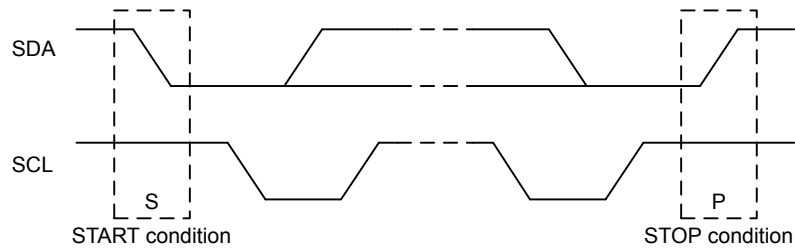

Figure 22.4. I²C START and STOP Conditions
START and STOP conditions are used to initiate and stop transactions on the I²C-bus. All transactions on the bus begin with a START condition (S) and end with a STOP condition (P). As shown in Figure 22.4 I²C START and STOP Conditions on page 703, a START condition is generated by pulling the SDA line low while SCL is high, and a STOP condition is generated by pulling the SDA line high while SCL is high.